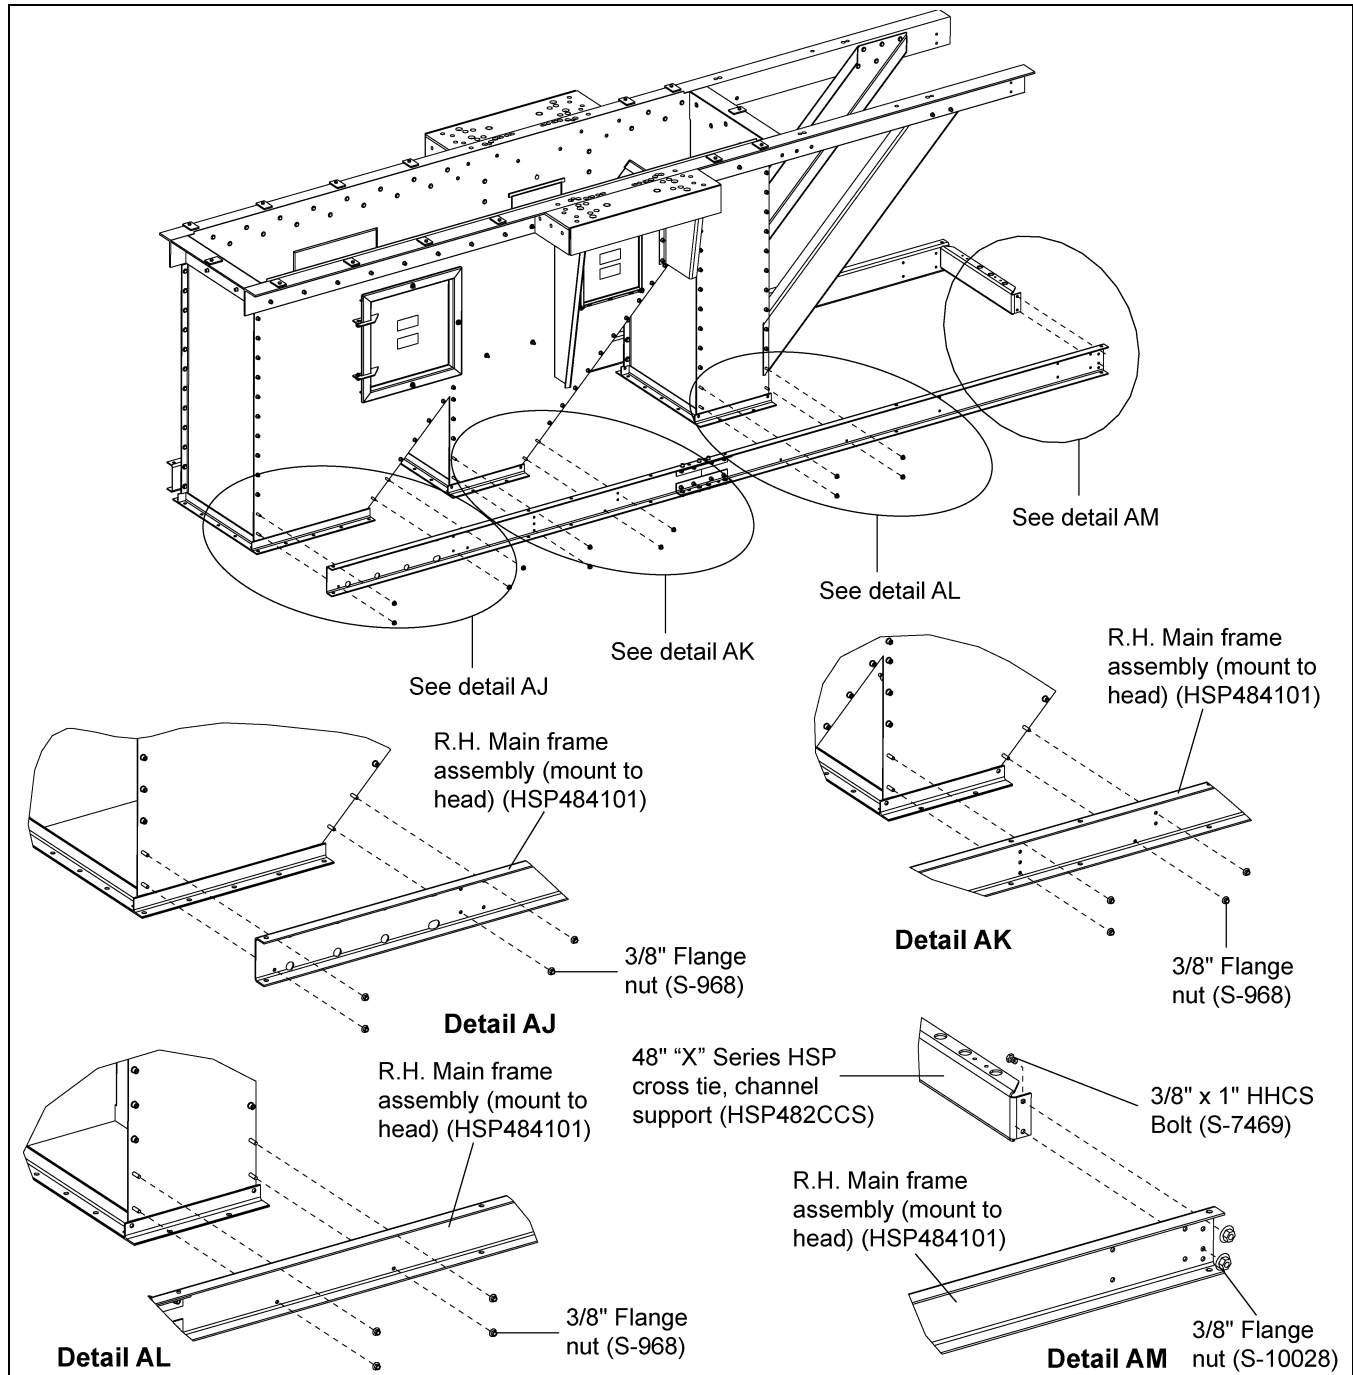
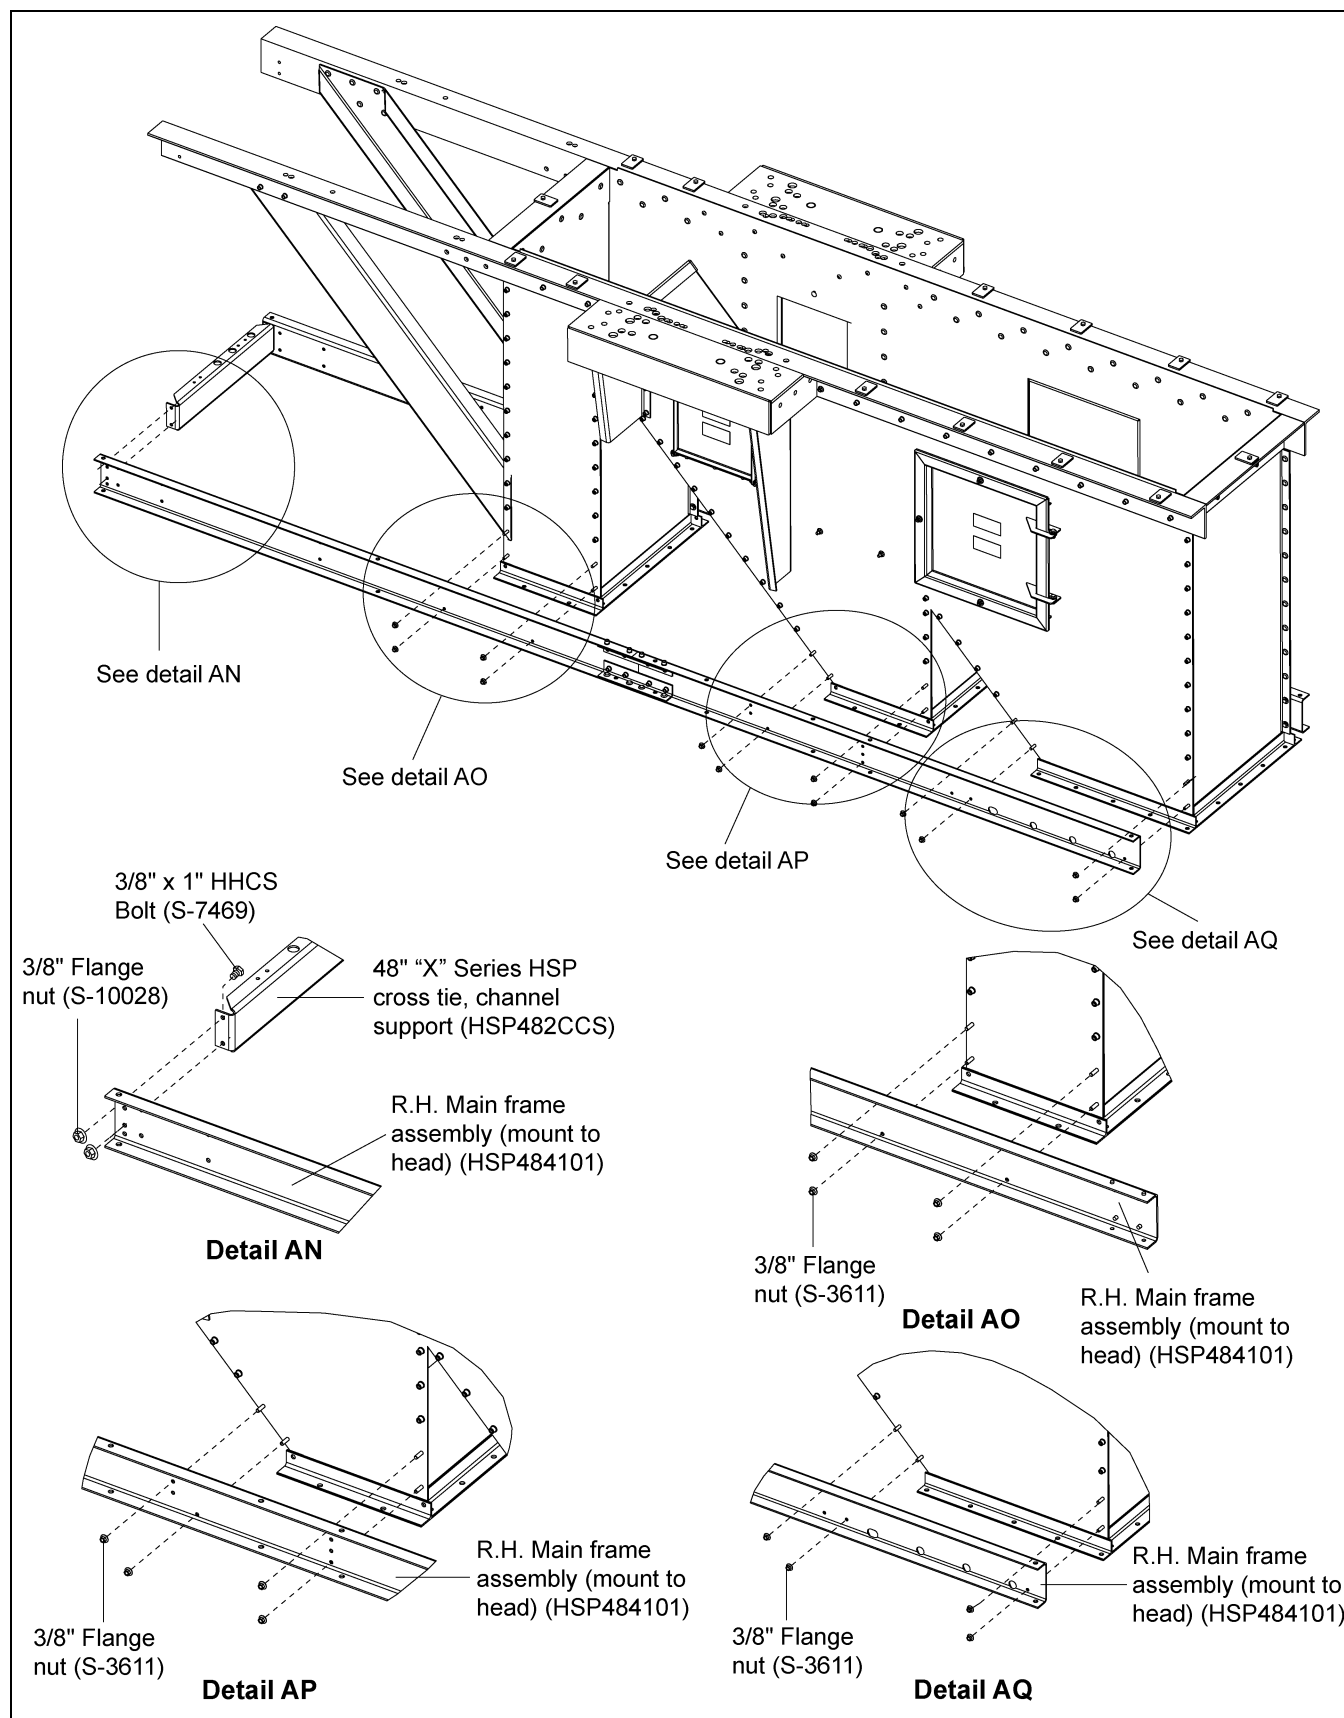

Figure 9A
Figure 9B
1. Align the bolt holes that are located next to the cross channel splice plate (HSP484039) of the cross channels (HSP482007X) to the main support channel (HSP484101) located on the hatch side. They all face the same direction except for the next to last on the discharge end. Fasten together using eight (8) 3/8" x 1" HHCS bolts (S-7469) and 3/8" flange nuts (S-968). (See Figure 9A below and Figure 9B on Page 72.)